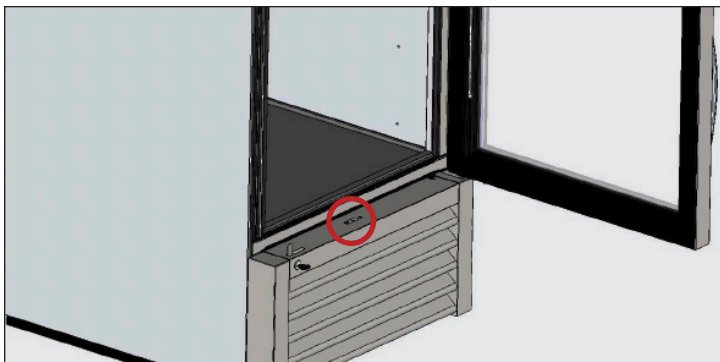

Fig. 1. Remove the front louvered grill from the appliance.
2. Remove the front louvered grill from the appliance. See fig. 1.